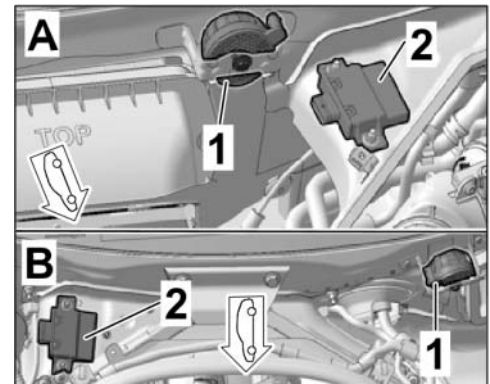

Figure 7
– Installation positions on LHD vehicle (⇒ *Figure 7-A*)
2.1 Position engine noise control unit on M6 studs (2 x) in the plenum panel and secure with two M6 hexagon nuts (2 x) (⇒ *Figure 7*).
2.2 Guide pin on underside of engine noise pulse sender into the bore on the holder in the plenum panel. Secure engine noise pulse sender, **facing the windscreen**, with an M6 hexagon nut (1 x) in the plenum panel holder (⇒ *Figure 7*).